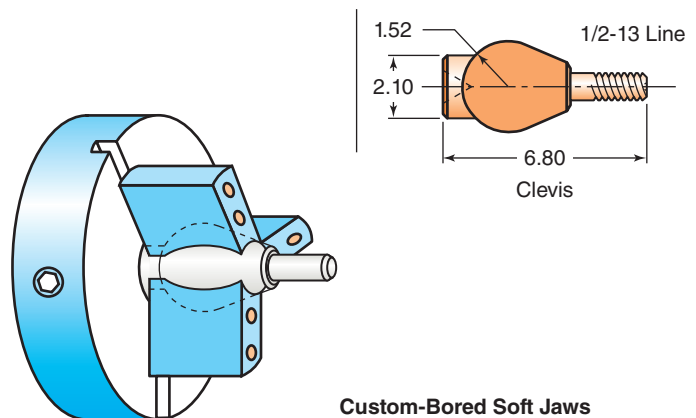

Figure 11-95 This clevis would be difficult to hold without the custom soft jaws.
2. Specially machined aluminum jaws to hold difficult shapes and/or to better align the work on-center (Fig. 11-95)
Used often in real manufacturing but seldom in school, custom-machined **soft jaws** are chosen when runout is a prime issue or when the work can't be gripped by any other means (Fig. 11-95). For example, this clevis (a round end on a rod) must be held to cut the threads. Soft jaws could be used. They are often created for a special job on a CNC lathe.